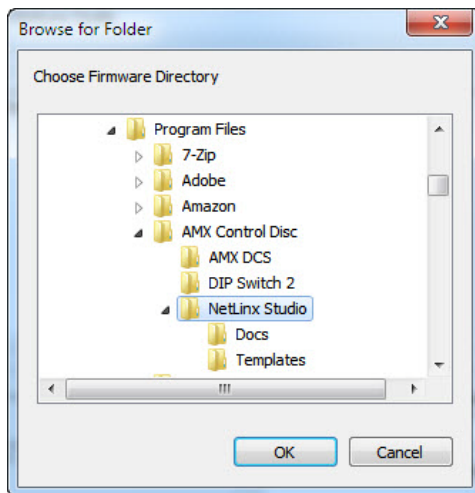

FIG. 63 Browse For Folder dialog (NetLinx Studio)
2. Click the **Browse (...)** button to navigate to the target directory in the **Browse For Folder** dialog (FIG. 63).